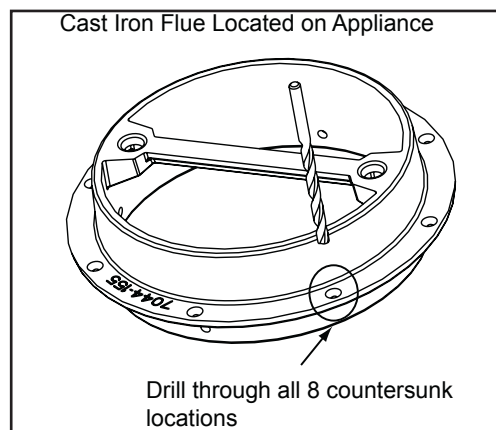

Figure 19.2
1. Remove the cast iron flue collar from the appliance and flip it upside down. Using the larger #7 drill bit supplied, drill through all 8 countersunk locations. **Figure 19.2**.